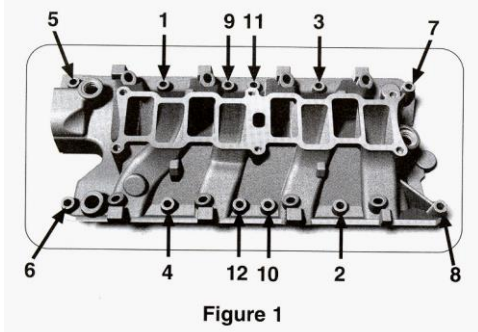

Figure 1
5. Torque them to 12 ft.-lbs., 16 ft.-lbs., then 22 ft.-lbs. using the sequence shown in Figure 1. You must repeat the sequence until all the bolts are torqued to specification. The manifold will work its way into the proper position during this process.